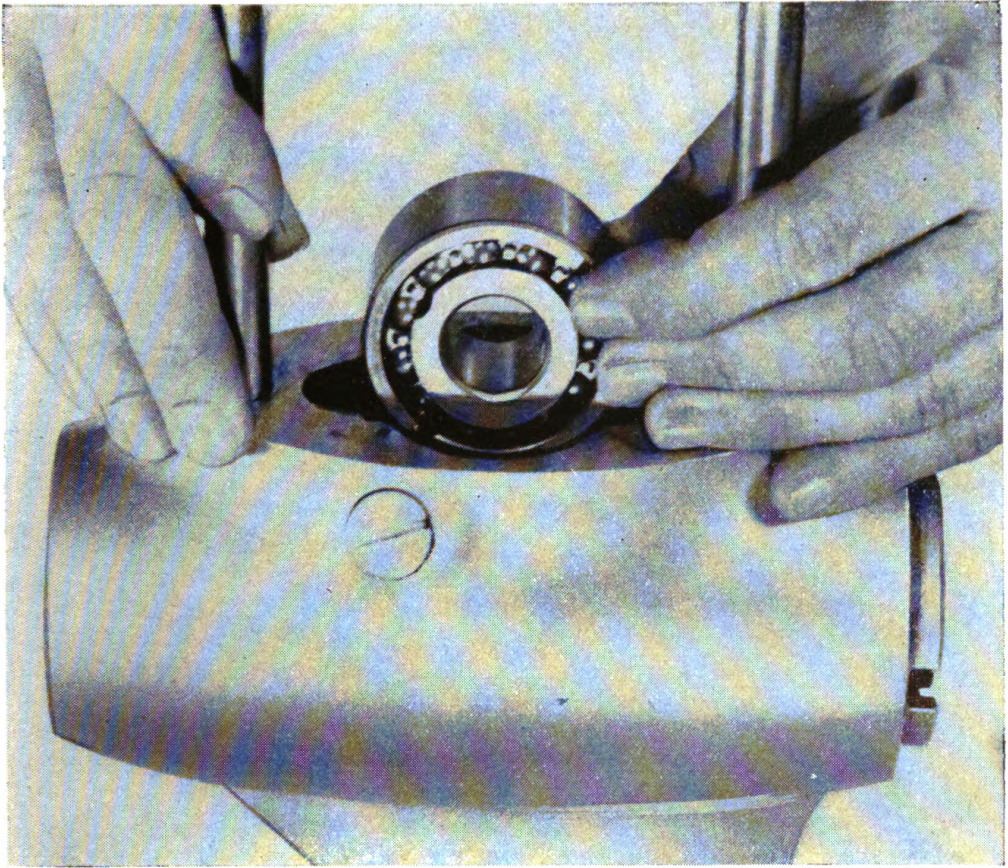

Figure 114. Inserting ball bearing in gearcase.
i. ASSEMBLE GEAR CASE. (1) Insert ball bearing through top opening in gear case as shown in figure 114. Turn bearing around and press into seat as far as possible with fingers. Bearing cannot be seated unless square with seat. To square bearing, insert propeller shaft through both bearings to line them up. Tap ball bearing in place by tapping end of propeller shaft with a mallet.